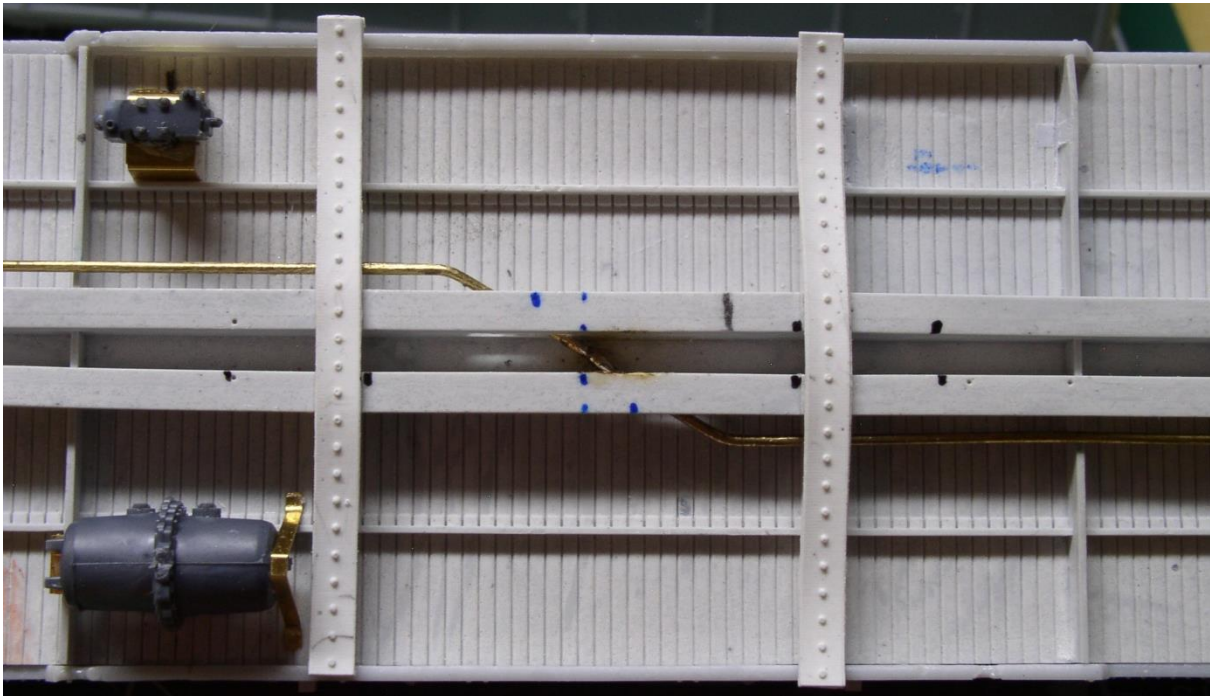

Figure U11
11. Glue the Bottom Cover Plates of the two Cross Bearers on the Cross Bearers. Please look at the underframe. There are two sets of dimples for the Brake Lever hangers on the top of the Centre Sill found outside of the two central Cross Beams. Please ignore these. *(You may find that some do match though.)* They don't work for Series 1. Instead, mark two spots on both sides of the Bottom Cover Plates that are 24" inches from each other. Note there is only one pair across from the AB Valve. See Figure U11.